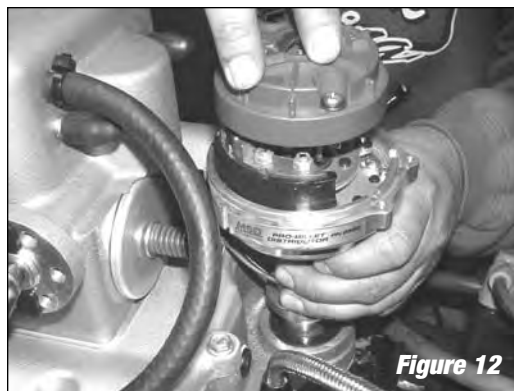

Figure 12
8. Reinstall the distributor (**See Figure 12**). Make sure the distributor is aligned in the same position, with the rotor pointing to the same terminal as it was when the distributor was removed. You may need to lift and reinsert the distributor multiple times to align the rotor.